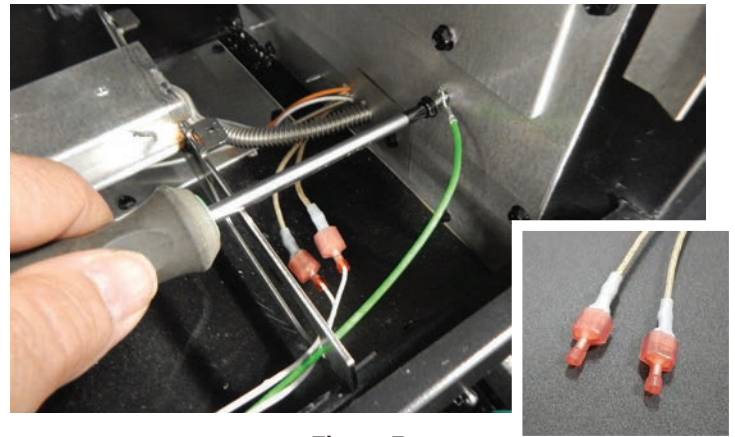

Figure 7
10. Locate and remove the 5/16" Hex Hd screw on the right side of the Firebox as shown in **Figure 7**, then re-install while securing the end of the Green Ground wire terminal. Remove the two pink protective terminal caps from the two tan light accessory wires located near the right side of the firebox (see inset) and discard, then connect these tan wires to the LK9 Light wire terminals. **See Figure 7.**